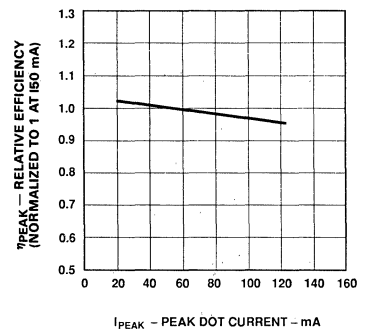

Figure 3. Relative Luminous Efficiency (per Dot) vs. Peak Current per Dot.
Figure 3 allows the designer to calculate the luminous intensity at different peak and average currents. The following equation calculates intensity at different peak and average currents:
- η_{peak} is the relative efficiency at the peak current, scaled from Figure 3.